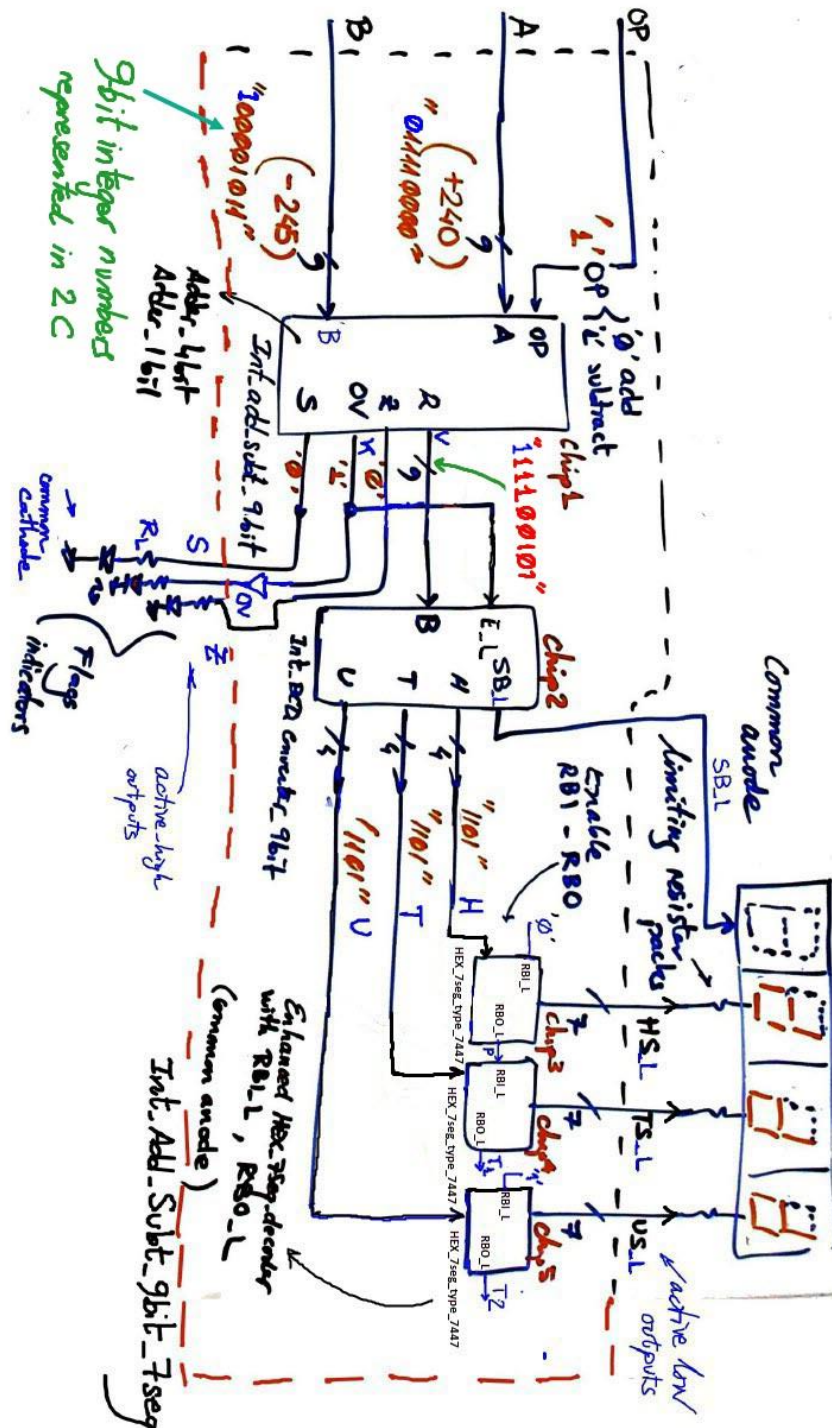

Fig. 3. Schematic plan C annotated ready for translation to VHDL.
We will discuss the plan C2 for *Int\_Add\_Subt\_9bit\_7seg* represented in Fig. 3. In principle, it looks like that five chips are required: Chip1 is an arithmetic operator, Chip2 is a code converter, and Chip3, Chip4 and Chip5 are adapters with active-low outputs to drive four of the 7-segment displays in DE115 board.
- a. Redraw circuit in Fig. 3 in your own style. Discuss why such circuit may work correctly. Apply (+25) + (-51); (-256) - (-151); (-106) + (-156); (0) - (0); (+106) - (+156), and explain signal values in every pin to show how the chip is processing numbers.